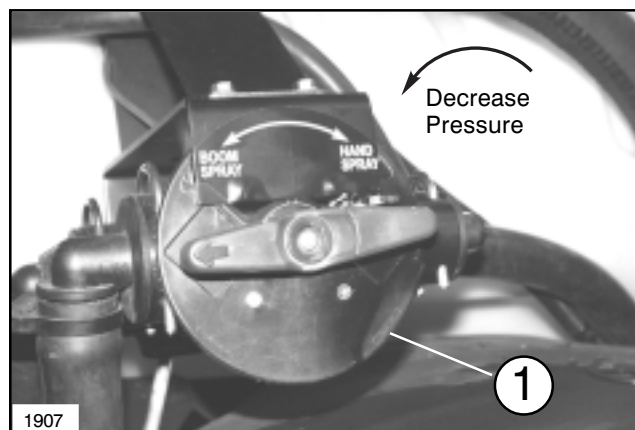

FIG. 2
1. For Boom Spray the Three-Way Valve handle should be turned with arrow pointing toward the rear of vehicle. For Hand Spray the arrow on the Three-Way Valve handle should be pointing toward the front of vehicle. See FIG. 2.
6. If hand spraying at less than 150 psi is desired, rotate the Three-Way Valve handle counter-clockwise until desired pressure is obtained. See FIG. 2.